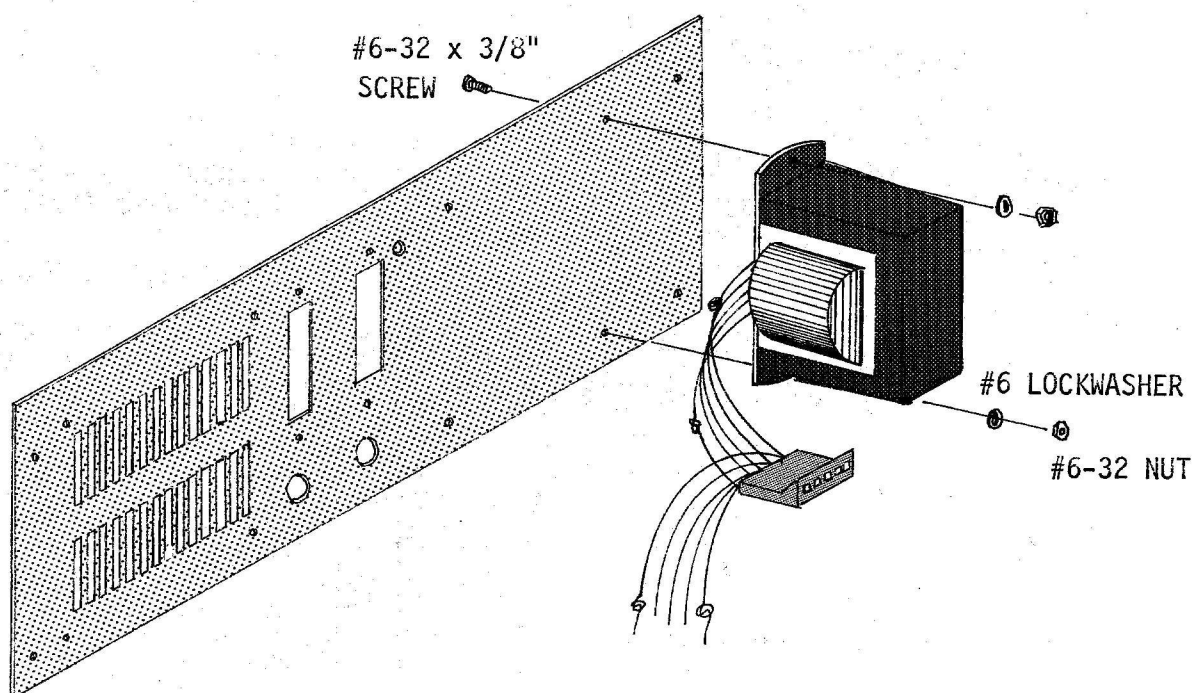

Figure 7
12. With the secondary wiring completed, install both transformers according to Figure 7. The terminal strip is mounted with the top screw over the second transformer.